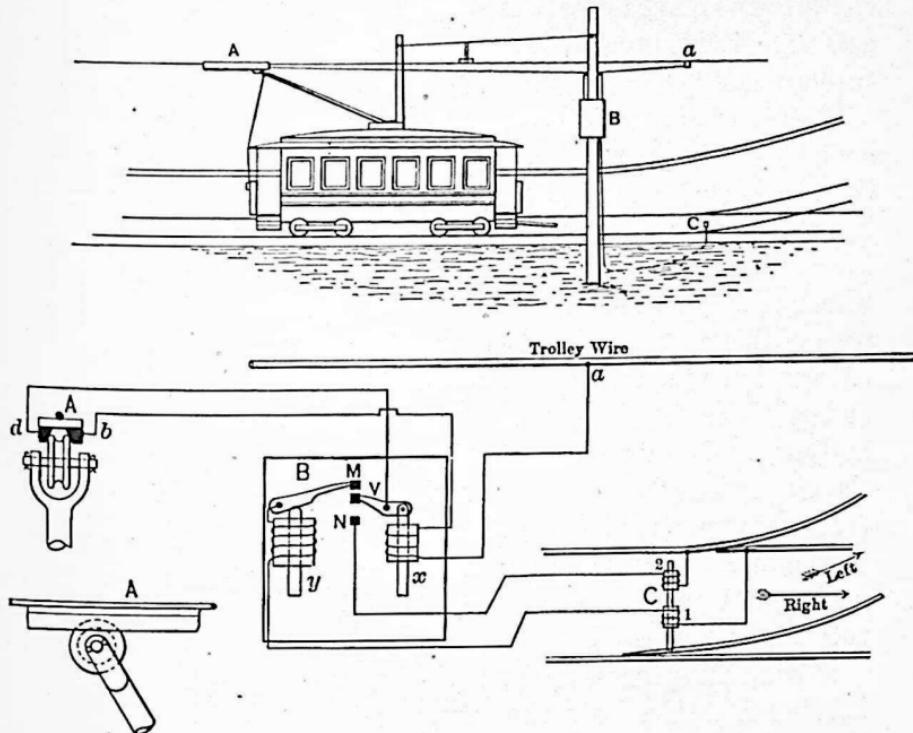

FIG. 211. Illustration and diagram of an electric track switch.
125. Electric Track-switches. In Fig. 211 is shown the Cheatham track switch. It consists primarily of three elements: the pan, *A*, attached to the trolley wire about 30 feet from the switch; the pole box, *B*, containing the electromagnet (*x*) which makes the proper electric contact; and the track box, *C*, containing the electromagnets (1) and (2), which operate the track switch.